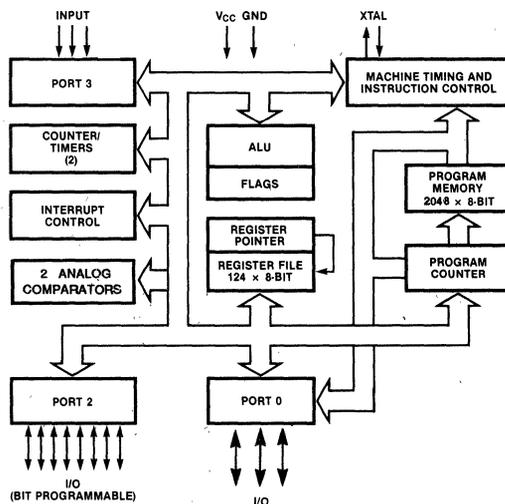

Figure 3. Functional Block Diagram
**P00-P02.** I/O Port Lines (inputs/outputs, CMOS compatible). The three lines of Port 0 are programmable as inputs or outputs on a group basis (Figure 3).
**P20-P27.** I/O Port Lines (inputs/outputs, CMOS compatible). The eight lines of Port 2 are programmable as inputs or outputs on a line by line basis (Figure 3).
**P30-P33.** Input Port Lines (inputs, CMOS compatible). The three lines of Port 3 are programmable as digital or analog comparator inputs on a group basis (Figure 3).
Z86C08 architecture is characterized by a flexible I/O scheme, an efficient register and address space structure and a number of ancillary features that are helpful in many applications (Figure 3).